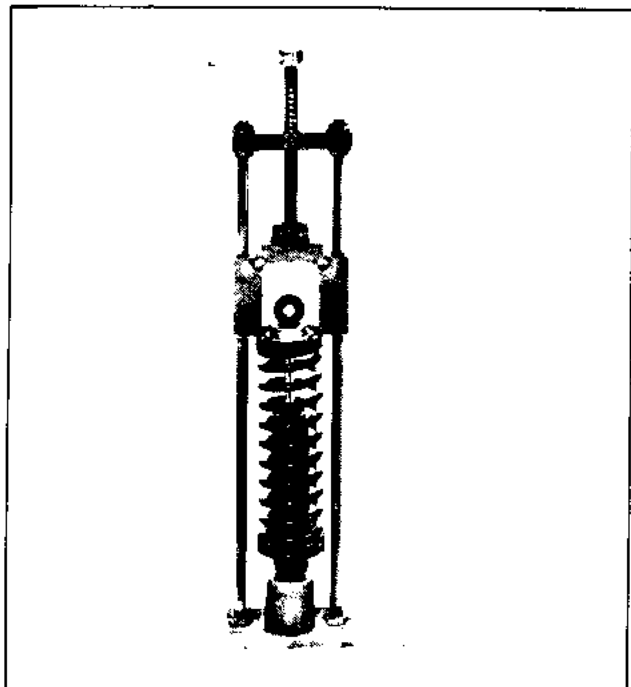

Figure 2F-78C. Using Shock Absorber Tool
Place shock absorber assembly in shock absorber tool, Part No. 97010-52A, in same position as when mounted in car. See Figure 2F-78C. Compress absorber spring enough to remove each half of upper spring retainer (1). Release spring compression and remove absorber assembly from tool. Remaining items can then be removed in order shown in Figure 2F-78D.